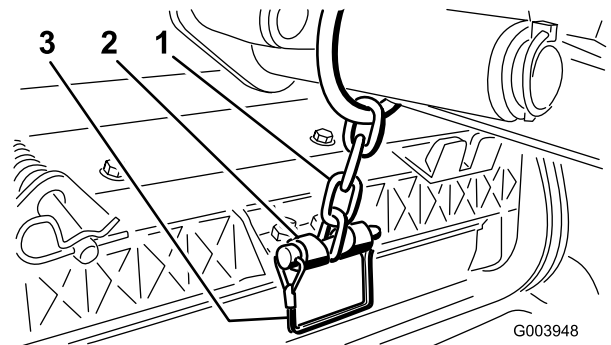

Figure 9
12. Secure the lift-arm chain to the chain bracket with the snapper pin (Figure 9).